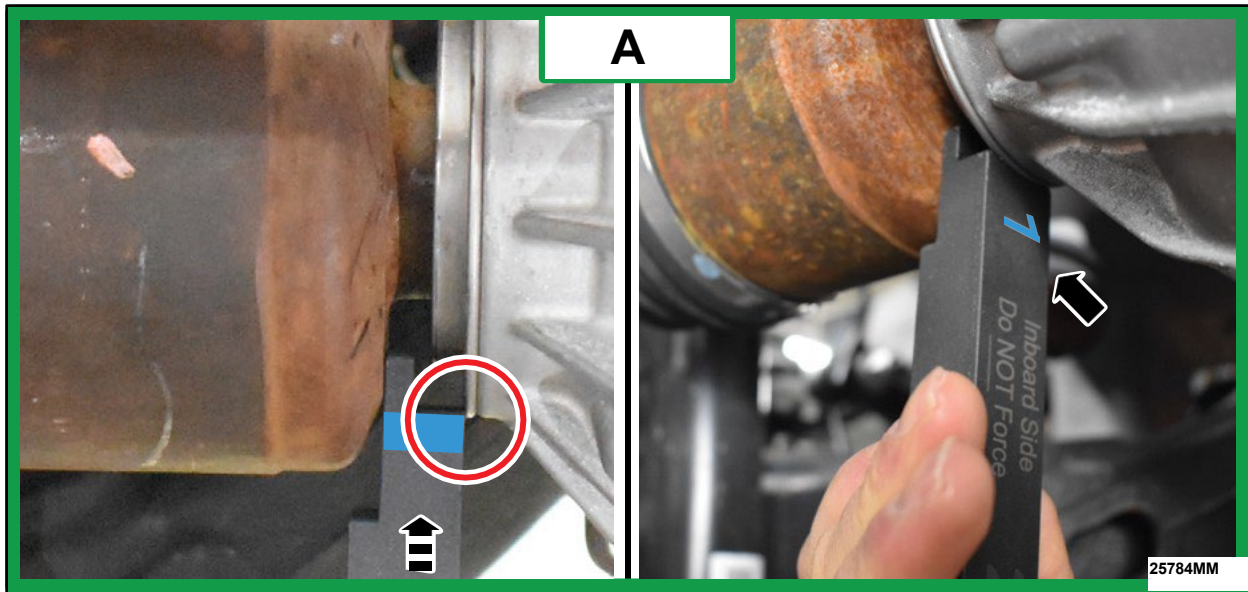

FIGURE 2
4. Without forcing, does gauge **Side 1** fit in the gap as shown in Figures 2 and 3?